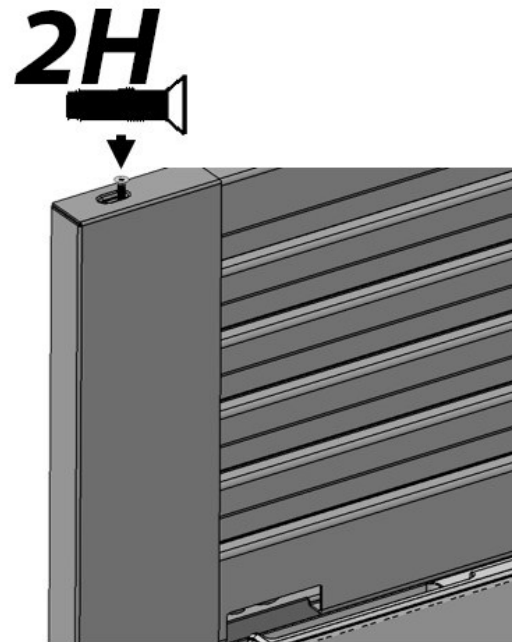

Figure 22
- b. Fasten 2H screws to top trim (See Figure 22) and repeat for right hand side.